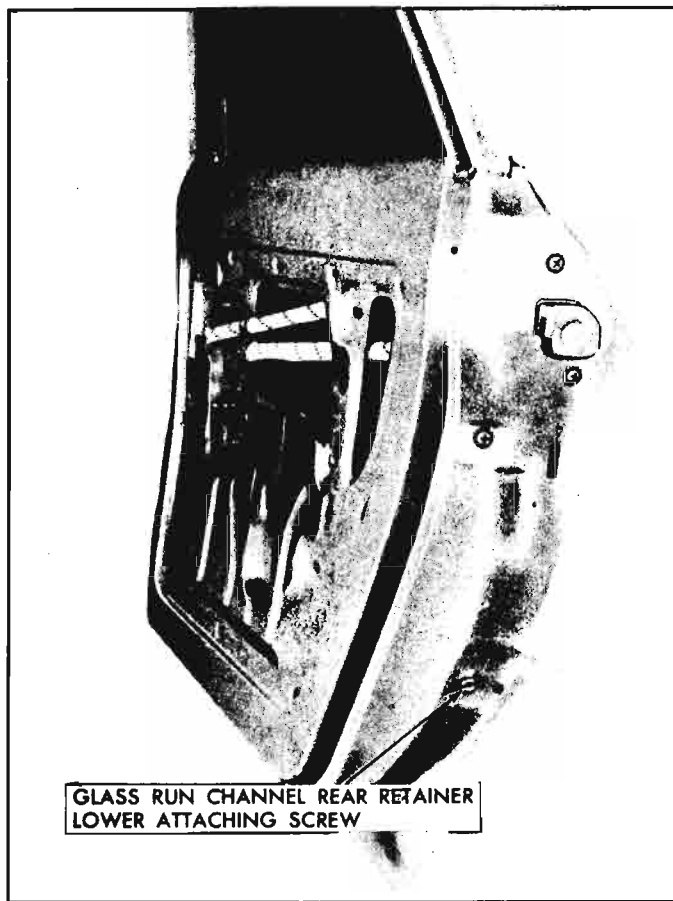

Fig. 10-64—Rear Door Window Adjustments
1. To adjust rear door window in or out, lower door window. Loosen glass run channel lower rear retainer attaching screw and adjust retainer assembly as required; then tighten screw (see fig. 10-64).